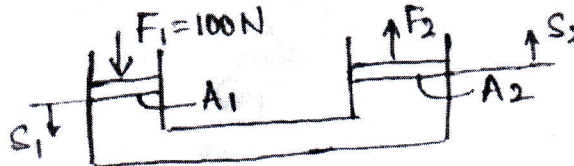

Fig.Q.1(c)
- c. In the hydraulic press shown in Fig.Q.1(c), a force of 100N is exerted on the small piston. Determine the upward force on the large piston. The area of the small piston is $50 \times 10^2 \text{ mm}^2$, and the area of larger piston is $500 \times 10^2 \text{ mm}^2$. Also find the distance moved by the large piston if the small piston moves by 100mm. (05 Marks)